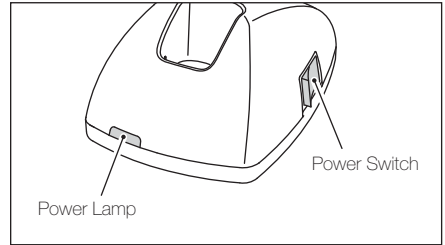

Fig. 2
3. Turn on the power switch. At this time, check that the power lamp lights up. (Fig. 2)